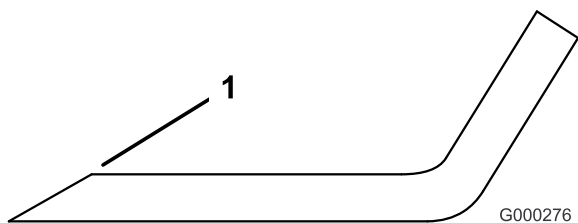

Figure 50
- Use a file to sharpen the cutting edge at both ends of the blade (Figure 50). Maintain the original angle. The blade retains its balance if the same amount of material is removed from both cutting edges.